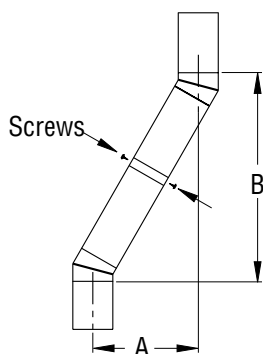

Figure 11 - Elbow Offset
Continue to assemble chimney sections as outlined, making sure that both inner and outer pipe sections are locked together. When installing double wall snap-lock chimney together, it is important to assure joint between chimney sections is locked. Check by pulling chimney upward after locking. Chimney will not come apart if properly locked. It is not necessary to add screws to keep chimney together (*exception - see Figure 11, Page 10*).
4. All pipe connections between offset and return must be secured with two screws on outer pipe only (*see Figure 11, Page 10*). Do not penetrate inner stainless.